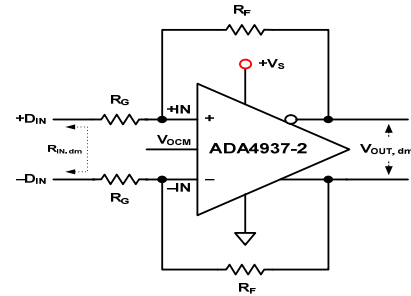

Figure 48. ADA4937-2 Configured for Balanced (Differential) Inputs
The effective input impedance of a circuit depends on whether the amplifier is being driven by a single-ended or differential signal source. For balanced differential input signals, as shown in Figure 48, the input impedance ( $R_{IN, dm}$ ) between the inputs (+DIN and -DIN) is simply  $R_{IN, dm} = 2 \times R_G$ .
**Table 9. Differential Ground-Referenced Input, DC-Coupled; See Figure 48**